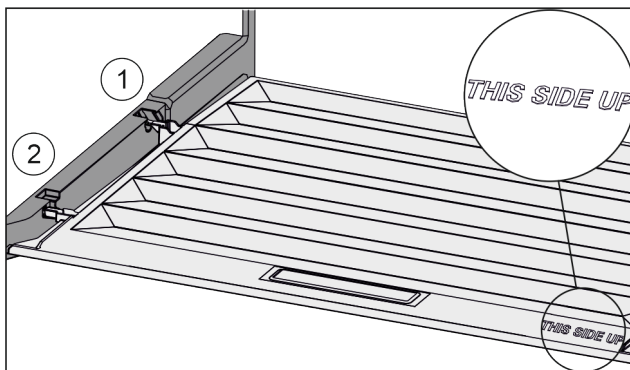

Fig. 98
- Insert the lip of the cover over the opening of the rear bracket Fig. 98 (1) and click into place Fig. 98 (2).